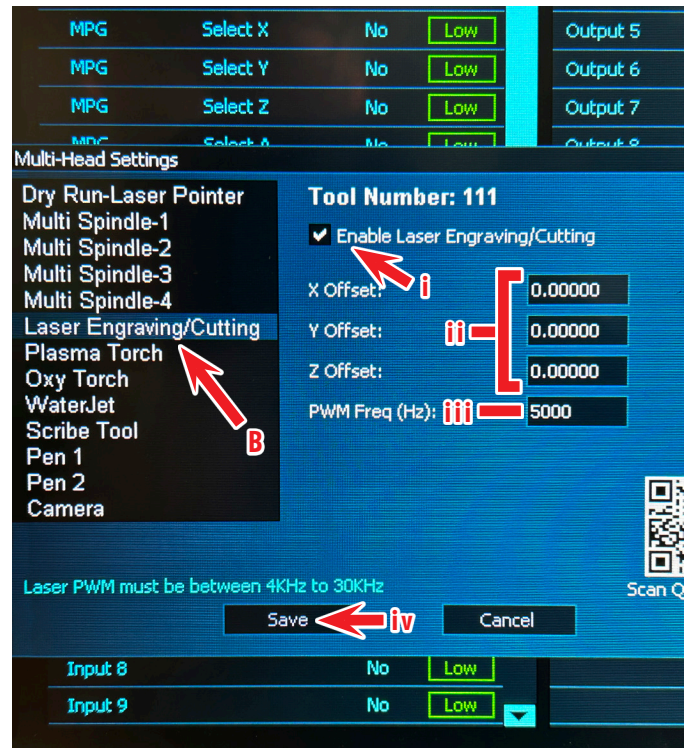

FIGURE 2
- B. Double-click on Laser Engraving/Cutting (see Figure 2).
- i. Check the Enable Laser Engraving/Cutting box (see Figure 2).